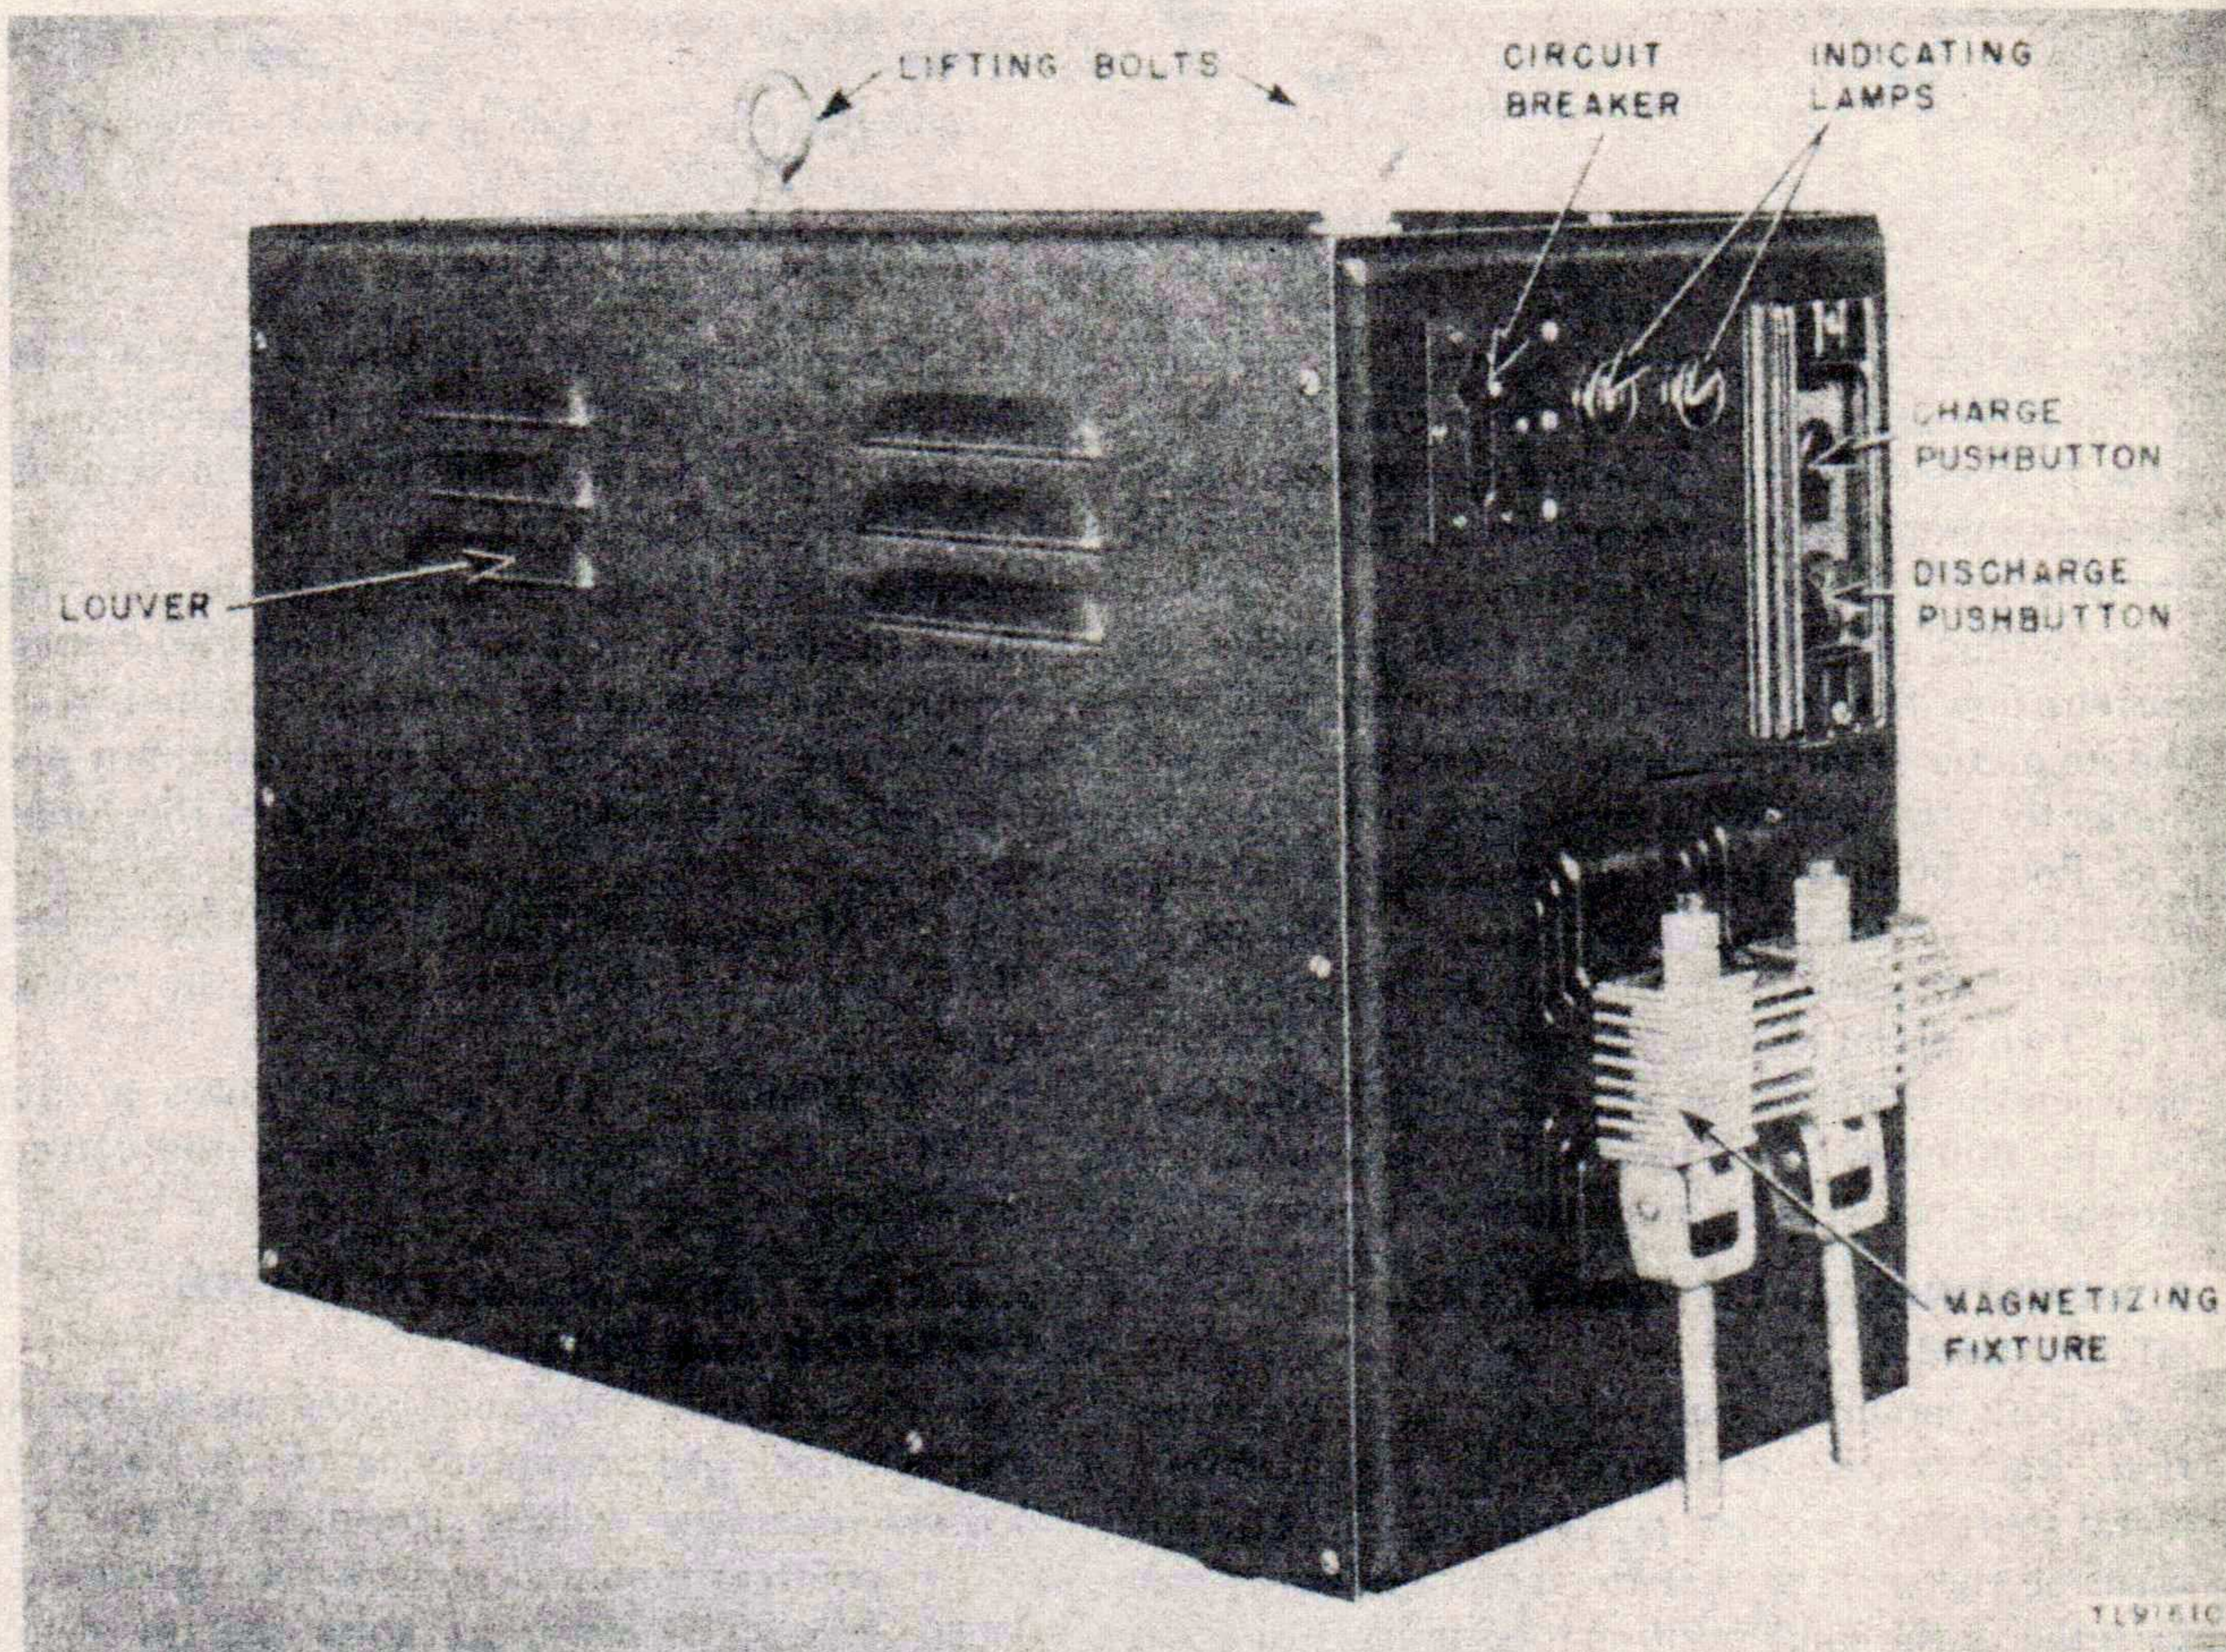

Figure 8. Magnet Charger TS-336/GSM-1, front view.
b. The secondary leads of the discharge transformer project through the front panel in a switch-type magnetizing fixture (fig. 8). The main power switch and breaker is mounted on the upper left corner of the front panel, the charge and discharge push buttons on the upper right, and the power indicating lamps in the upper center of the panel.